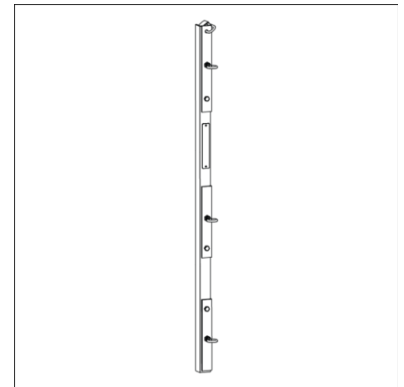

Figure 17
i. Anti-Deflection Post (Fig. 17)